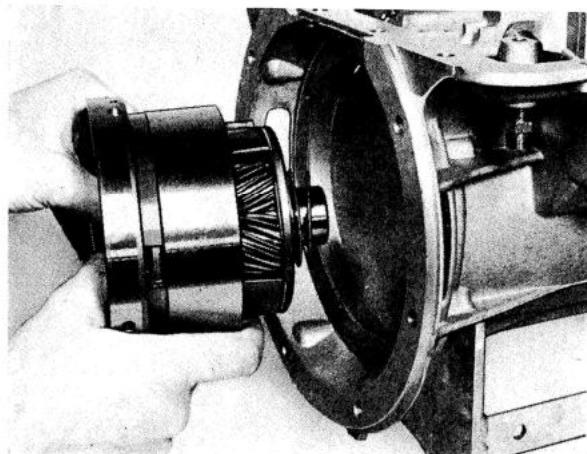

Fig. 4-103. Installing center support and planet gears with needle thrust bearing and plate washer
- Assemble the planet gear, one-way clutch and center support, see Fig. 4-103. Stick the thrust plate and needle thrust bearing to the planet cover with vaseline.